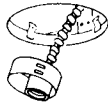

FIG. 1
**A. FRAME-IN (FIG. 1)**
Push OPTICAL SECTION straight up into MOUNTING FRAME until tight against finished ceiling. RETAINING SPRINGS on MOUNTING FRAME (Fig. 1) will secure OPTICAL SECTION (reflector or baffle) in place.